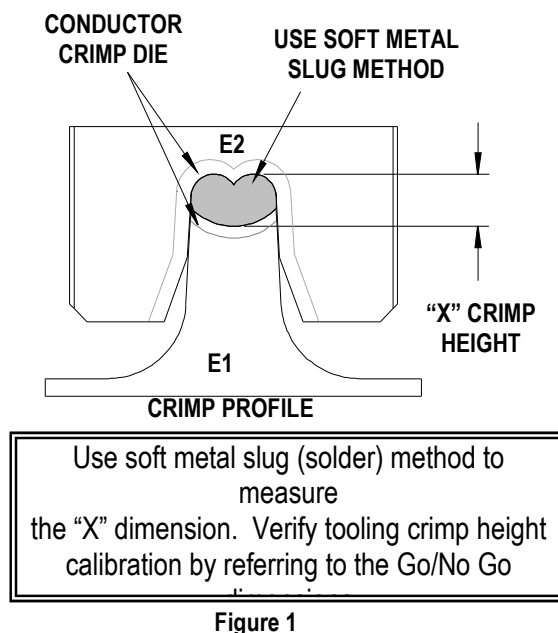

Figure 1
4. The recommended method of measuring the crimp height of the conductor dies is the soft metal slug method, (See Figure 1).